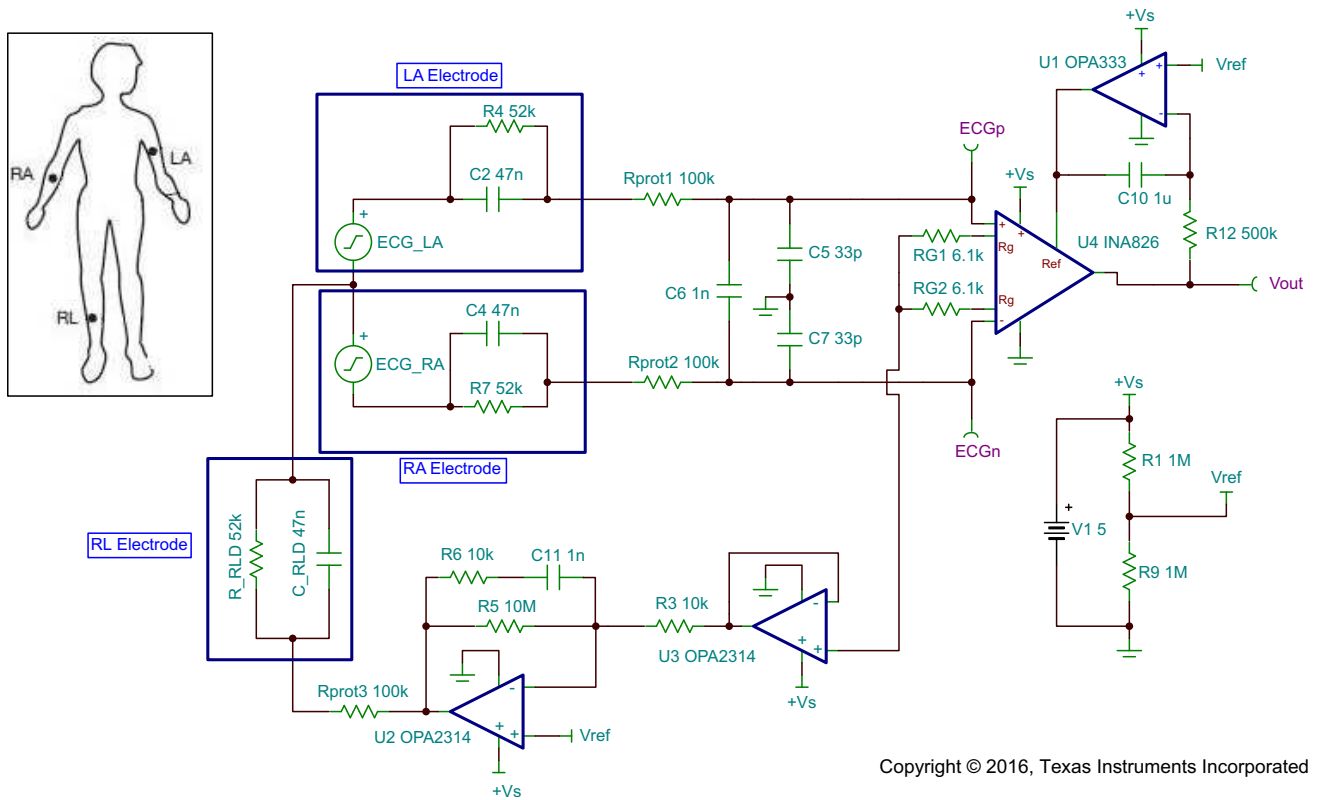

Figure 69. ECG Circuit
Figure 69 is an example of a LEAD I ECG circuit. The input signals come from leads attached to the right arm (RA) and left arm (LA). These signals are simulated with the circuitry in the corresponding boxes. Protection resistors (R_{PROT1} and R_{PROT2}) and filtering are also provided. The OPA333 is used as an integrator to remove the gained-up dc offsets and servo the INA826 outputs to V_{REF} . Finally, the right leg drive is biased to a potential $(+V_S / 2)$, and inverts and amplifies the average common-mode signal back into the patient's right leg. This architecture reduces the 50-Hz and 60-Hz noise pickup.